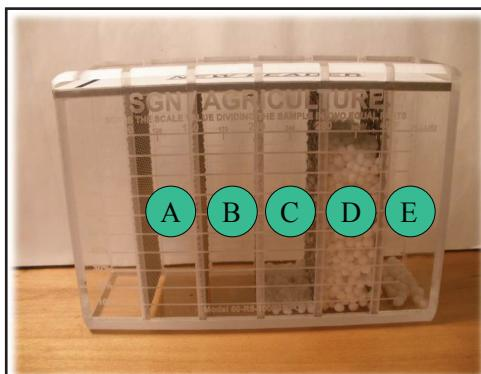

Figure 6
6. Figure 6- View level of material in each compartment and determine SGN level based on markings.